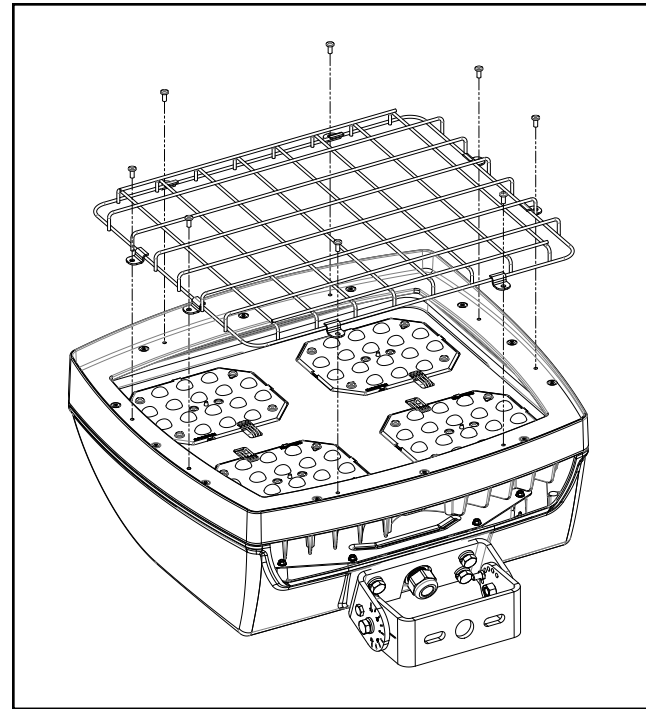

Figure 5.
Wire Guard (Figure 5.)
1. Align wire guard on top of lens frame matching the eight existing holes. (Figure 5.)